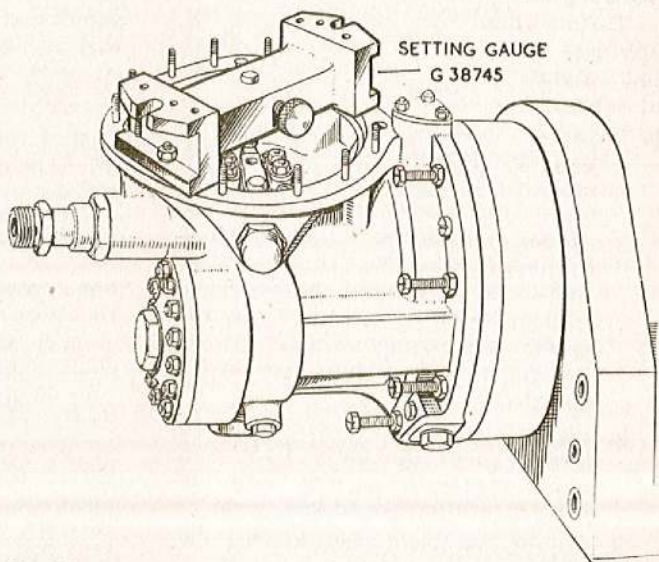

Fig. 27. Diaphragm tappet clearance check, unit mounted on rig
- Op. 1. Mount the tappet clearance gauge across the studs in the pump housing, to which the diaphragm cover is normally fitted, and secure as shown in fig. 27. Slacken off the knurled locking screw in the side of this gauge to free the central plunger. Then press the plunger down until it just makes contact with the rocker lever in its seated position, and tighten the knurled screw to lock the plunger.